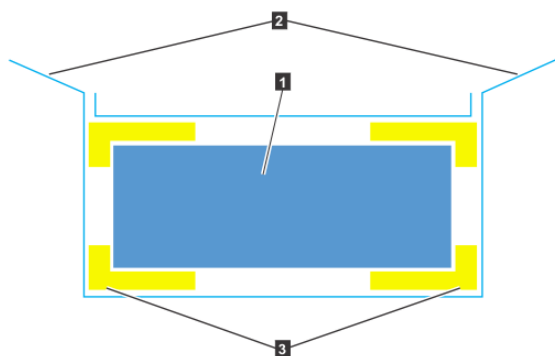

Figure 50. Packaging materials
3. Cut the corners of the shipping box and fold them down to uncover the sides and faces of the expansion enclosure, as shown in Figure 50 on page 52.